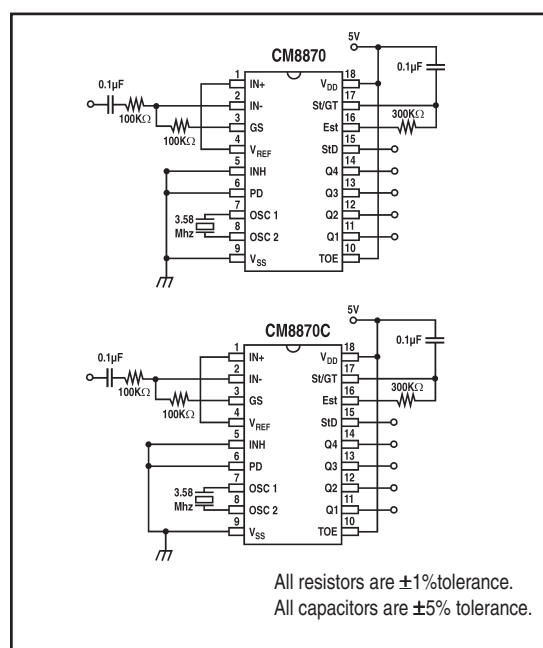
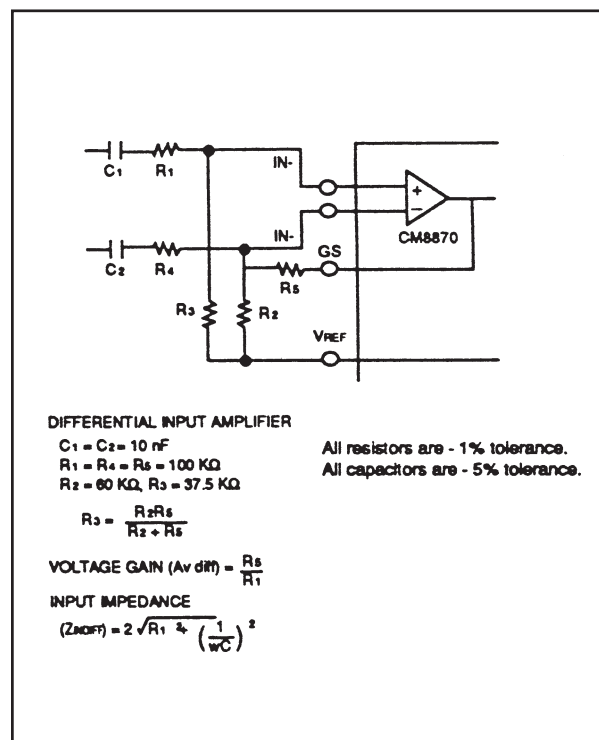

Figure 1.
Figure 6. Differential Input Configuration
- Referenced to Figure 1. Input DTMF tone level at -28 dBm.
The value of t_{DP} is a parameter of the device and t_{REC} is the minimum signal duration to be recognized by the receiver. A value for C of 0.1 μ F is recommended for most applications, leaving R to be selected by the designer. For example, a suitable value of R for a t_{REC} of 40 milliseconds would be 300K. A typical circuit using this steering configuration is shown in Figure 1. The timing requirements for most telecommunication applications are satisfied with this circuit. Different steering arrangements may be used to select independently the guardtimes for tone-present (t_{GTP}) and tone absent (t_{GTA}). This may be necessary to meet system specifications which place both accept and reject limits on both tone duration and interdigit pause.
In a single-ended configuration, the input pins are connected as shown in Figure 1, with the op-amp connected for unity gain and V_{REF} biasing the input at $\frac{1}{2} V_{DD}$. Figure 6 shows the differential configuration, which permits the adjustment of gain with the feedback resistor R5.